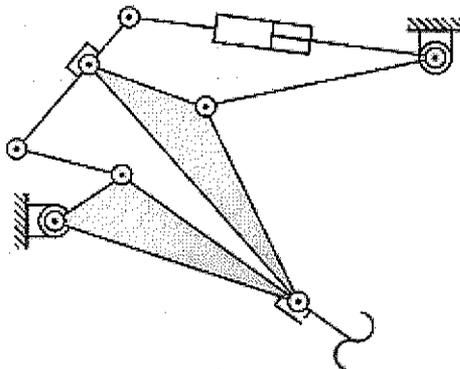

Fig. 1a
1. (a) Find the degrees of freedom of the mechanisms shown in Fig. 1a. (10%)